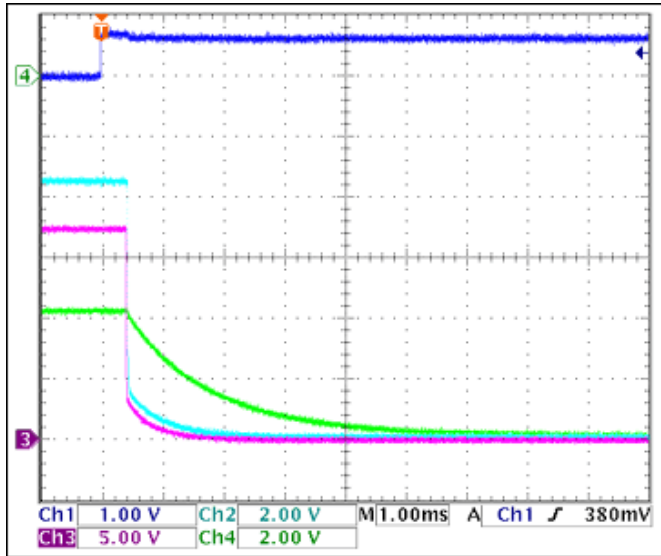

Figure 6. -12V gate turn-off, no load
-12V load turn-off time = 4ns (see **Figures 6 and 7**)